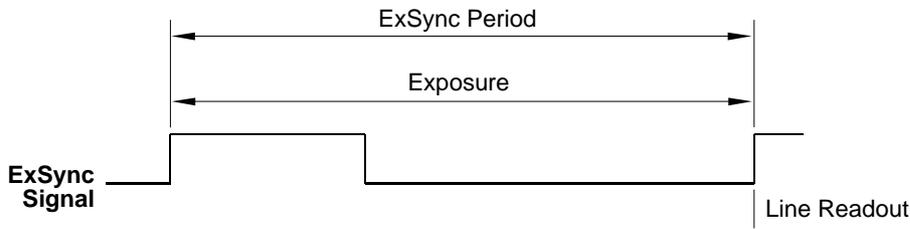

Fig. 22: ExSync Edge Controlled Mode
- In **ExSync edge controlled** mode, line acquisition begins on the rising edge of the ExSync signal. The pixels are exposed and charge is accumulated over the full period of the ExSync signal (rising edge to rising edge). The falling edge of the ExSync signal is irrelevant. The pixel values read out of the sensor on the rising edge of ExSync. (see Figure 22).